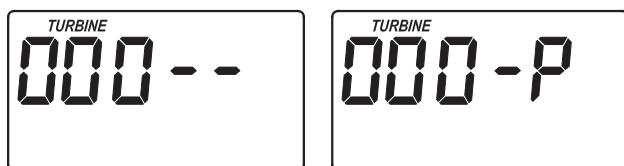
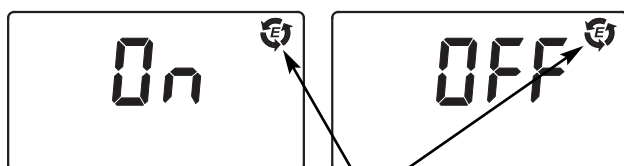
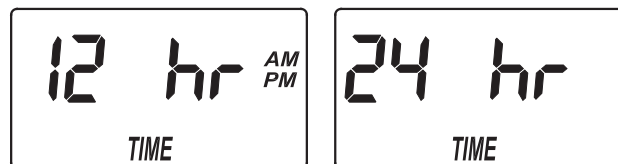

FIG. 21
FIG. 22
FIG. 25
1. Press and hold the PROGRAM button until one of the screens in Figure 21 is displayed. Once in this display, press the PROGRAM button once and one of the two displays in Figure 22 is shown.
1. Press and hold the PROGRAM button until the screen in Figure 21 is displayed. Once in this display, press the PROGRAM button two times and one of the two displays in Figure 24 is shown.
1. Press and hold the PROGRAM button until the screen in Figure 21 is displayed. Once in this display, press the PROGRAM button three times and one of the two displays in Figure 25 is shown.